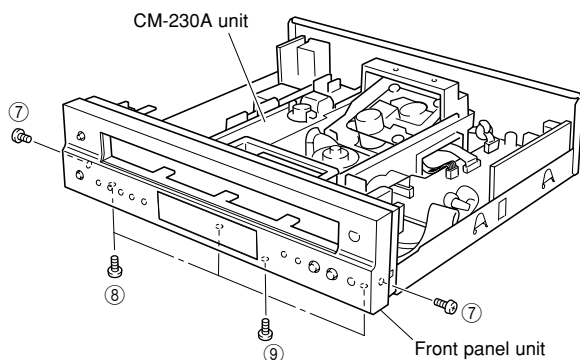

Fig. 3
- Remove 2 screws (⑦), 3 screws (⑧) and 1 screw (⑨). (Fig. 3)
- Remove the front panel unit. (Fig. 3)